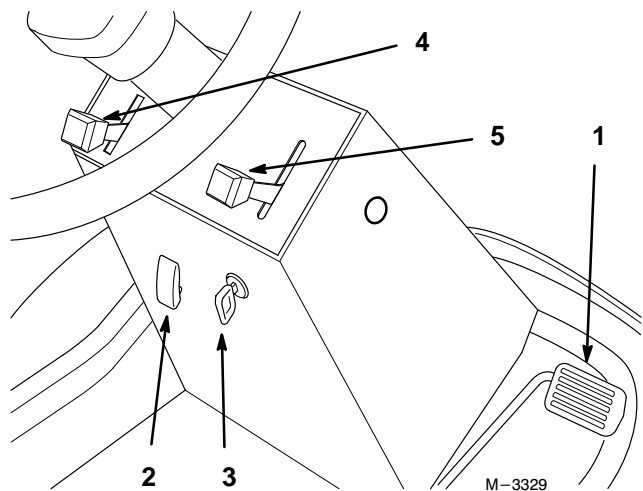

Figure 6
1. Move the throttle lever to “SLOW” (Fig. 6).
2. Turn the ignition key to “OFF” (Fig. 6).